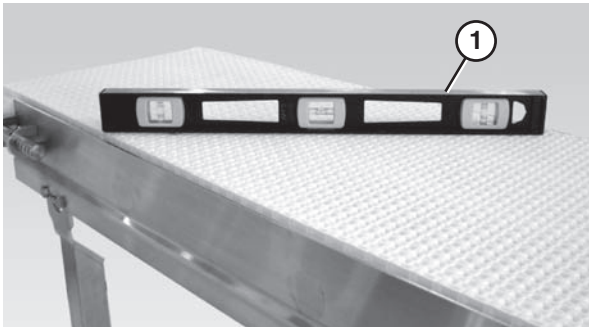

Figure 3
Conveyor **MUST** be mounted straight, flat, and level within confines of conveyor. Use a level (Figure 3, item 1), during setup.